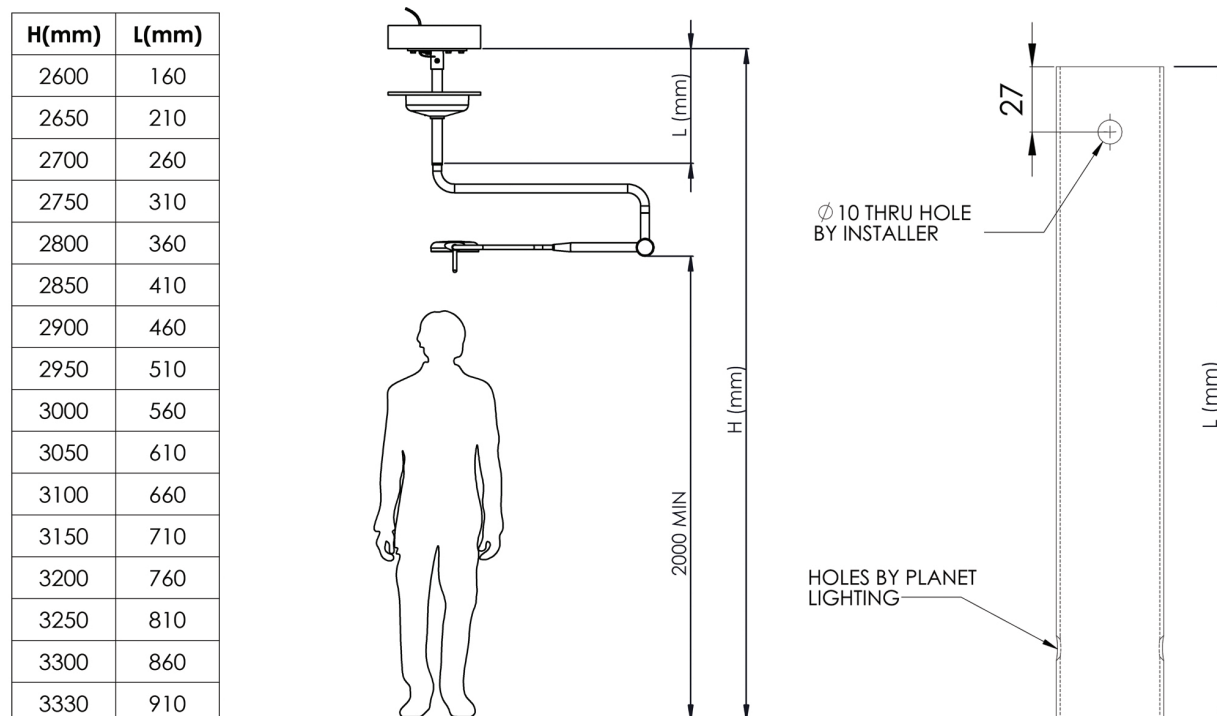

Fig. 4.0
4. Cut ceiling tube to length, based on the table in Fig. 4.0